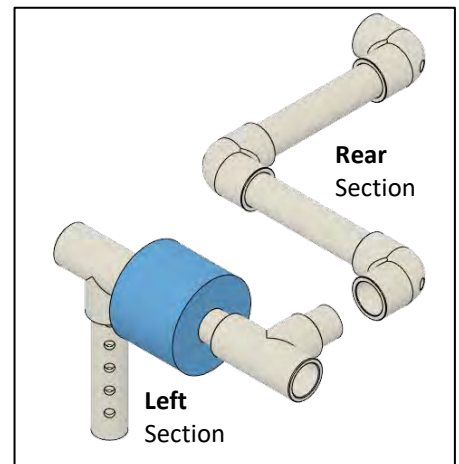

Figure 32
- Connect the rear frame section to the left-side frame section. (Figure 32)